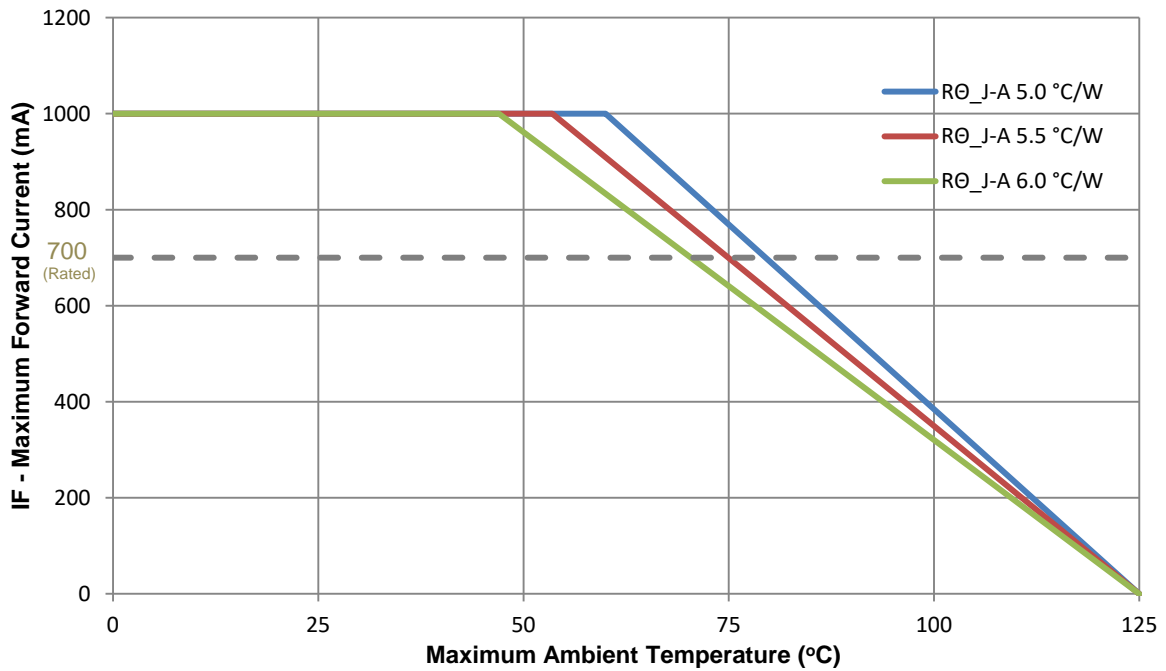

Figure 9: Maximum forward current vs. ambient temperature based on TJ(MAX) = 150°C
- Maximum DC forward current (per die) is determined by the overall thermal resistance and ambient temperature. Follow the curves in Figure 9 for current derating.
Notes for Figure 9: